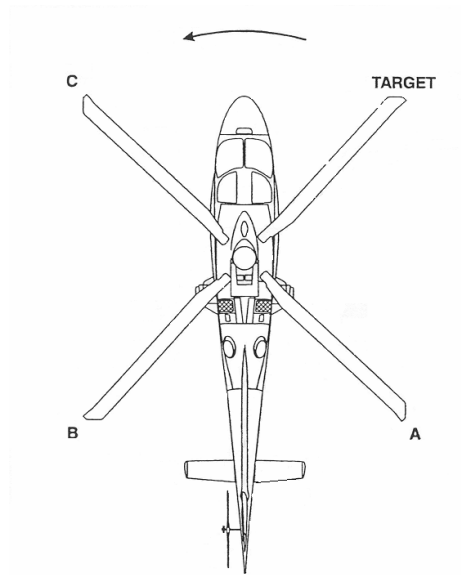

Figure 2
5. Connect optical tracker (Item 8) to the Aux/Comm. port on the Model 2020 Analyzer. The blades will be numbered as in (Figure 2). This is the location of the main rotor head when the magnetic pickup and interrupter are aligned.